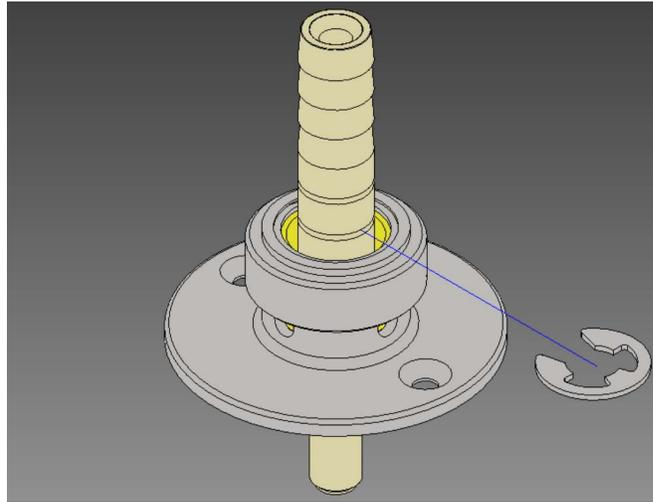

FIGURE F. 13. – INTERNAL E-CLIP INSTALLATION
3. Install the Internal E-Clip (see Figure F.13.)